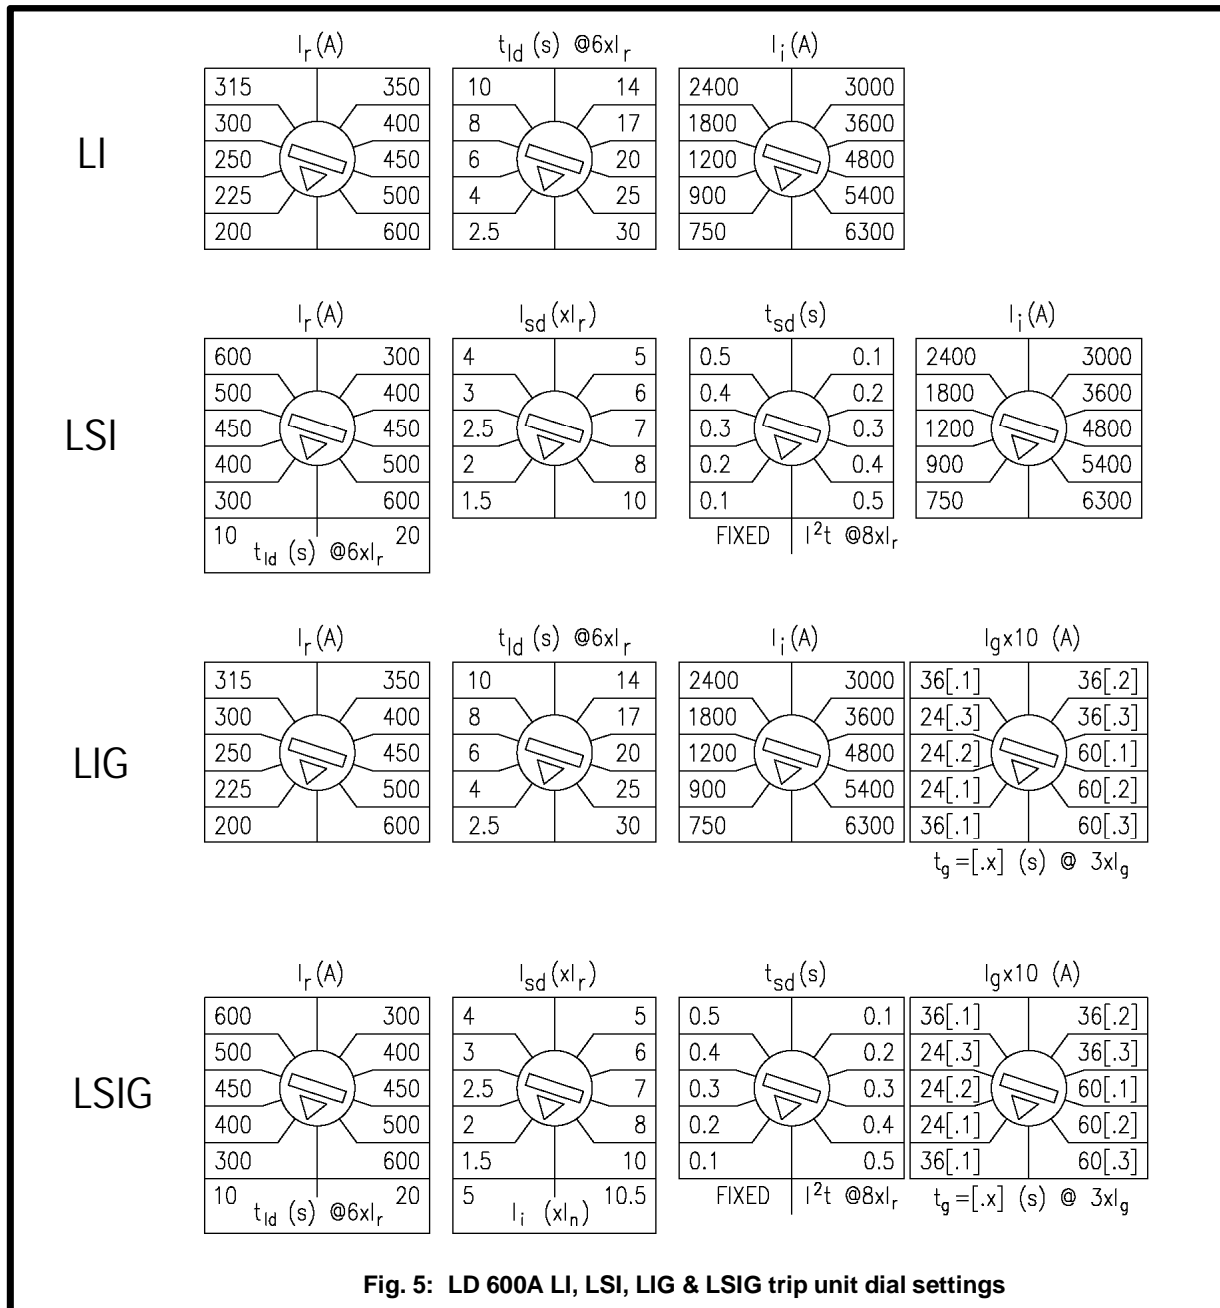

Fig. 5: LD 600A LI, LSI, LIG & LSIG trip unit dial settings
All model types have an adjustable Continuous Current dial setting. The first dial is always used to adjust the Continuous Current setting of the circuit breaker and the markings are displayed in Amps. The Long Time Pickup (I_{ld}) setting is set to $I_r \times 1.15$. LI and LIG configurations have ten (10) adjustable settings and the LSI and LSIG configurations have five (5) adjustable settings. See Fig. 5 for an example of the four LD 600A configurations.